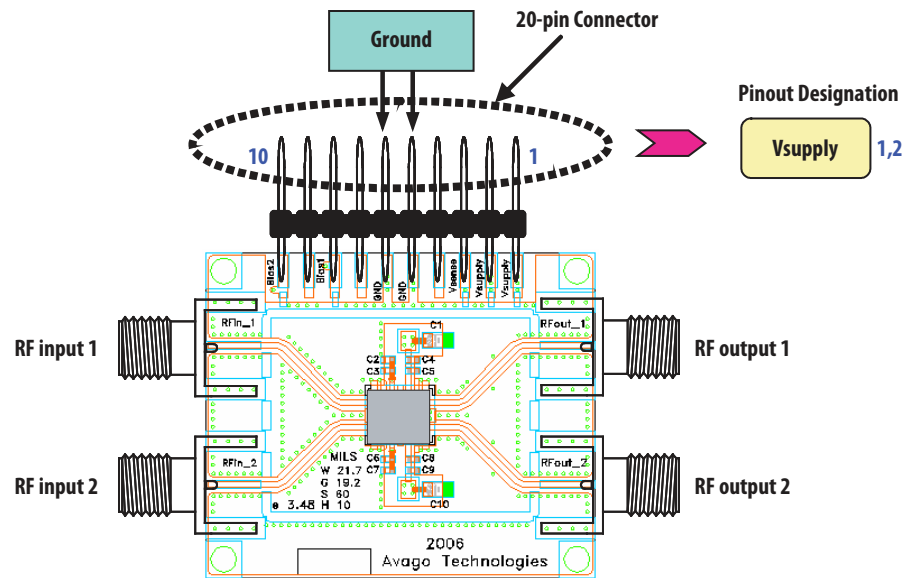

Figure 5. Demo Board Layout Diagram
$T_A = 25\text{ }^\circ\text{C}$ ,  $V_{dd} = 5\text{V}$  @  $280\text{mA}$ , RF performance at 2.0 GHz, given for each of the 2 RF paths, measured on demo board (see Fig. 5) unless otherwise specified.
- Measurements at 2GHz obtained using demo board described in Fig 5.